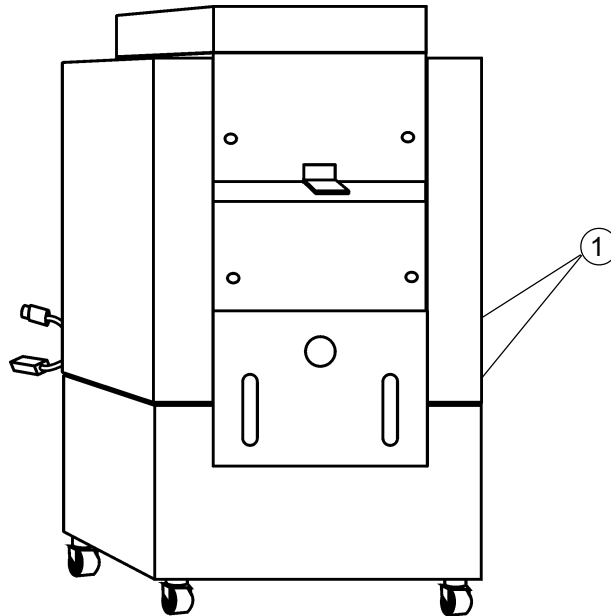

Figure 15
4. Remove the front cover (1) on the Trimmer by loosen two 8 mm screws, figure 15